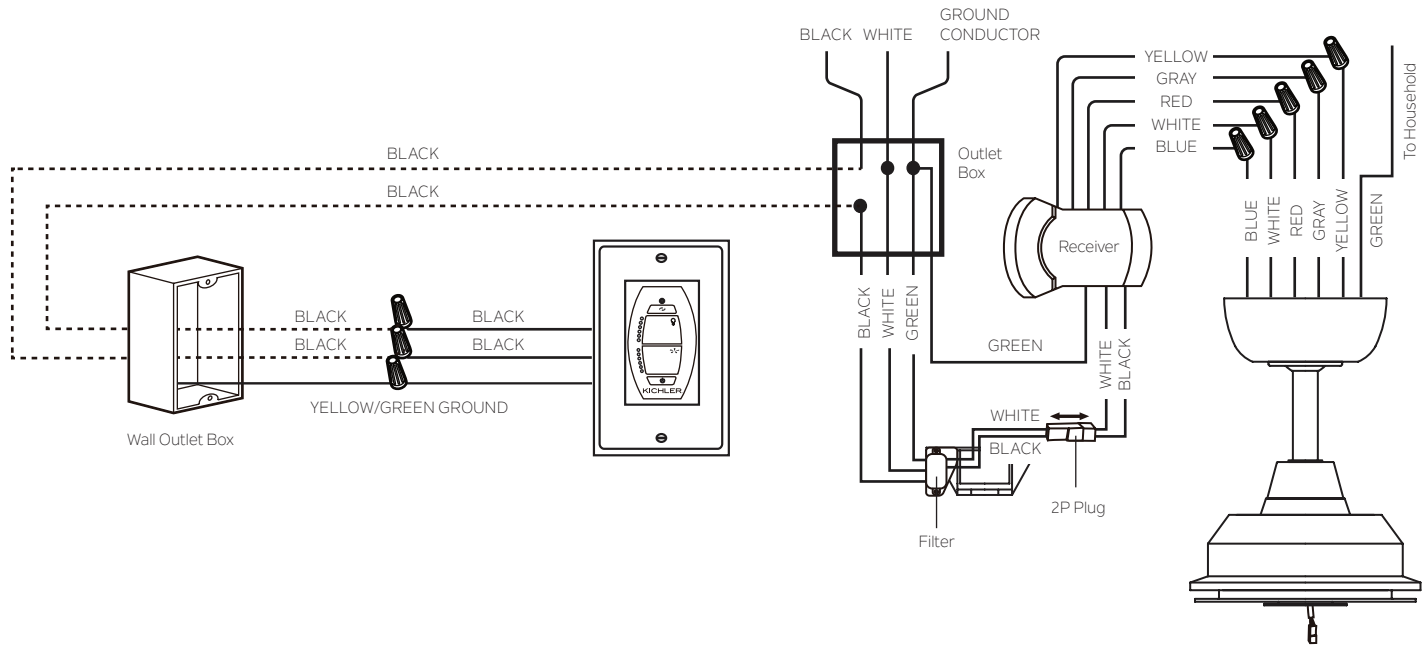

Fig. 13
Make each of the wire connections illustrated in Figure 13. Secure each with the wire nuts provided.
**Step 1.** Connect the Blue wire from the fan (motor) to the Blue wire from the receiver. White wire from the fan (motor) to the White wire from the receiver. Red wire from the fan (motor) to the Red wire from the receiver. Gray wire from the fan (motor) to the Gray wire from the receiver. (Fig. 13)
**Step 1.** Snap together the 2-P wire connection plugs from the receiver and filter: Black to black, White to white. (Fig. 13)
**Step 1.** Black wire (TO MOTOR L) from the Wall Control to the Black wire from the Wall Outlet Box. (Fig. 13)